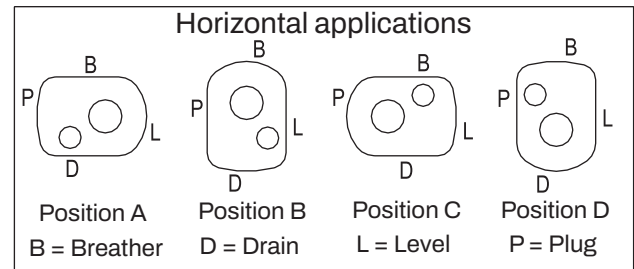

Figure 1 – Mounting Positions
2. Determine the running positions of the reducer (see Fig. 1). Note that the reducer is supplied with either 4 or 7 plugs; 4 around the sides for horizontal installations and 1 on each face for vertical installations. These plugs must be arranged relative to the running positions as follows:
The running position of the reducer in a horizontal application is not limited to the four positions shown in Figure 1. However, if running position is over 20° either way from sketches, the oil level plug cannot be safely used to check the oil level, unless during the checking the Torque-Arm is disconnected and the reducer is swung to within 20° in positions “B” and “D” or 5° in positions “A” and “C” of the positions shown in Figure 1.
Refer to Fig. 1 on page 2 for mounting positions
NOTE: If reducer position is to vary from those shown in Figure 1 either more or less oil may be required. Contact product support.